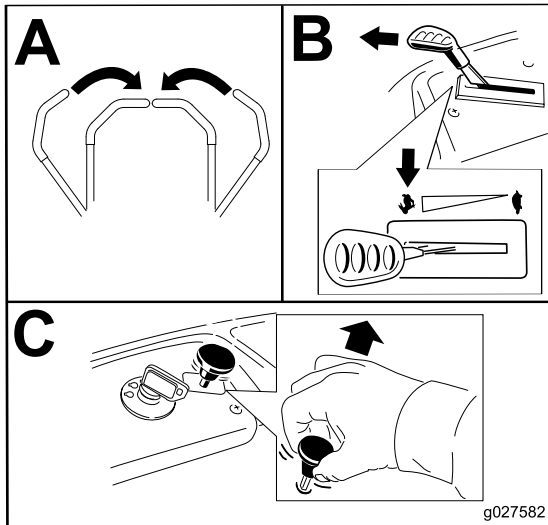

Figure 13
2. Move the throttle lever to the FAST position (Figure 13).